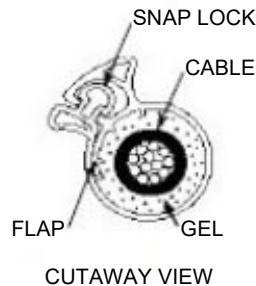

Figure 5
5. Center the connector in the sleeve, then wrap the sleeve around the cable and connector. Start at one end, compress the snap locks over the entire length of the sleeve. Ensure that flaps seat under snap locks as shown in Figure 5.